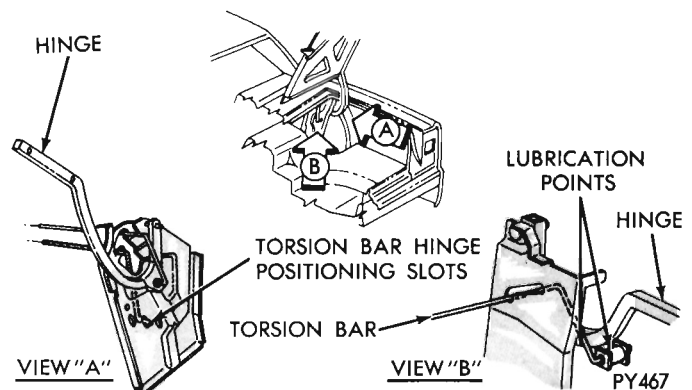

Fig. 41 - Deck Lid Torsion Bar Adjustment
- (1) Remove torsion bar (under spring load) from adjustable slot (Fig. 41).
- (2) Unwind torsion bar and remove from support bracket.
- (3) Push torsion bar out of roller in hinge arm and remove from hinge support.